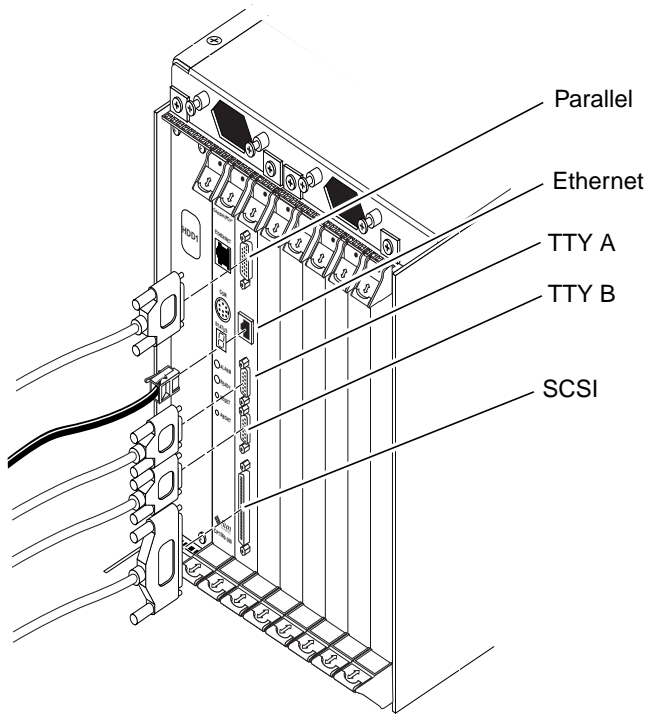

FIGURE 4-6 Connectors on the CPU Front Transition Card (Netra ct 800 Server)
- CPU front transition card, Netra ct 800 server—FIGURE 4-6